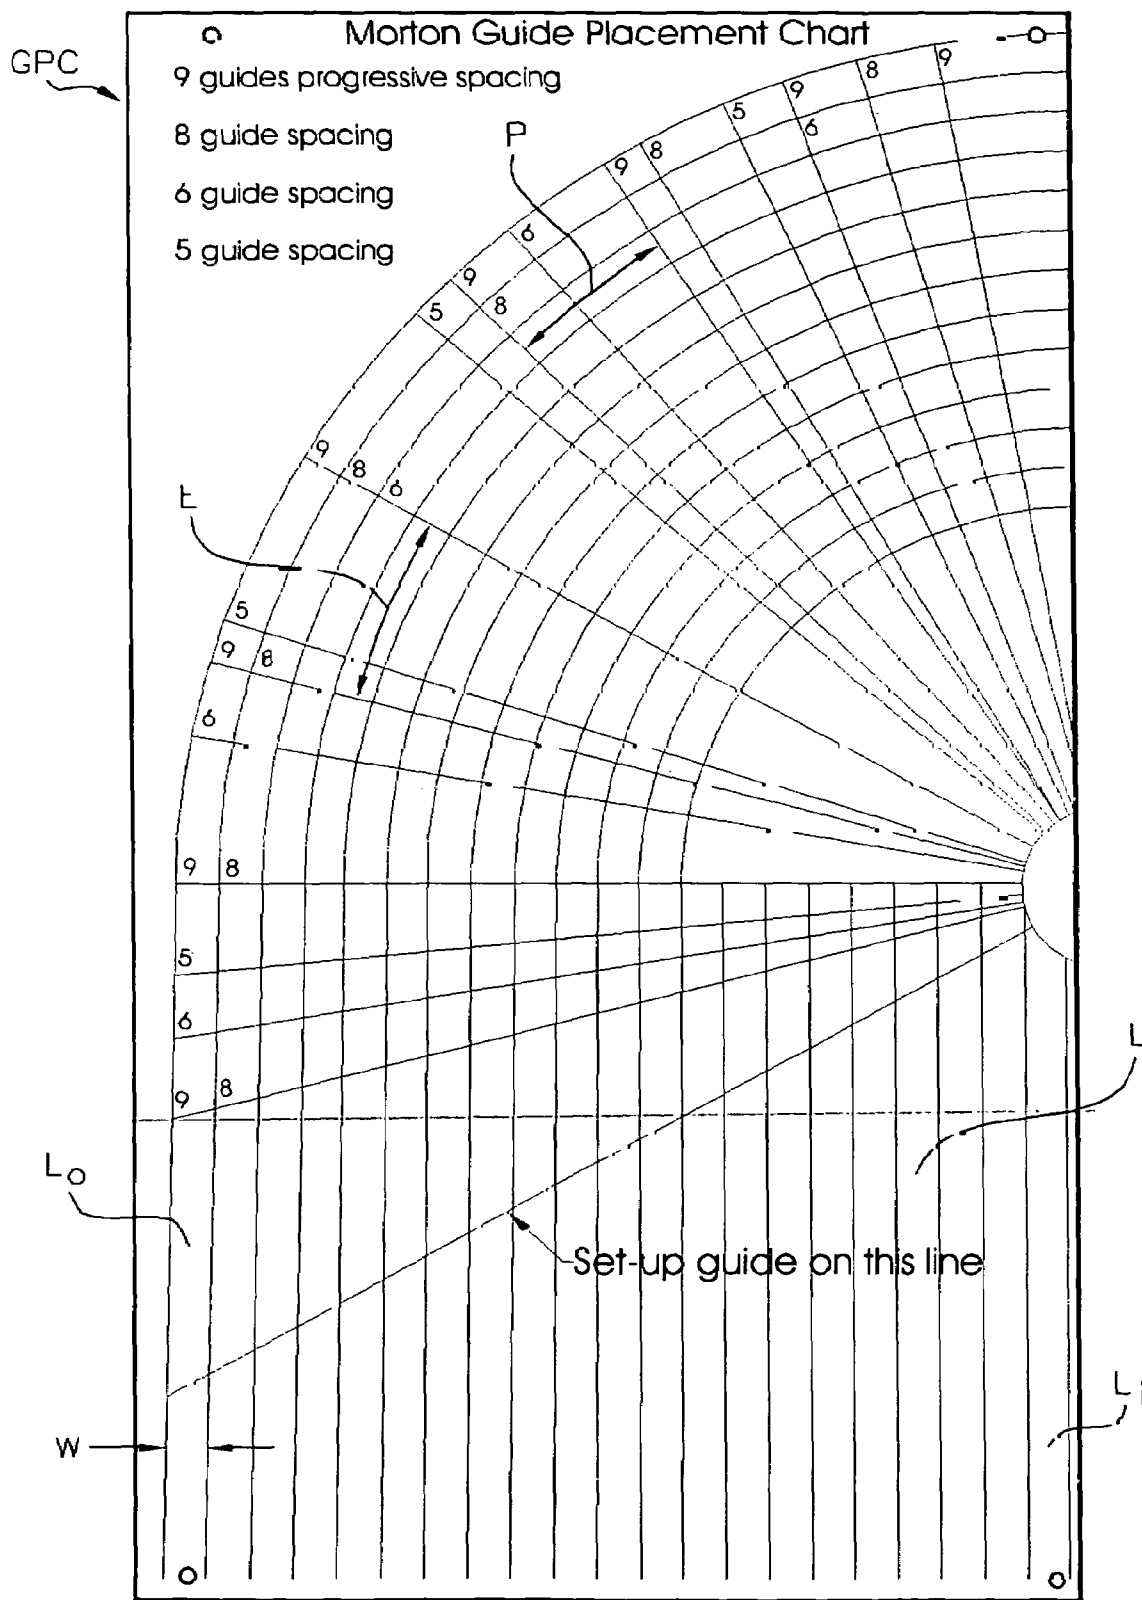

FIG. 1
FIG. 1 shows the guide placement chart of the present invention;
Rods (R) have different amount of power, taper, and are used to perform a variety of fishing tasks. The angle spacing technique places the guides (G) using equal angles () or progressive angles (B) as a spacing measurement. The guide placement grid (GPC) as shown in FIG. 1 has a series of lanes or pathways (Li) of predetermined width (W) which are curved or arcuate at the upper portion wherein the radius of the arc increases from the inner most lane (Li) to the outermost lane (Lo). The curved or arcuate portions of the lanes (L) are intercepted by a series of radially directed marker lines deferring the optimum locating points for guides (G).